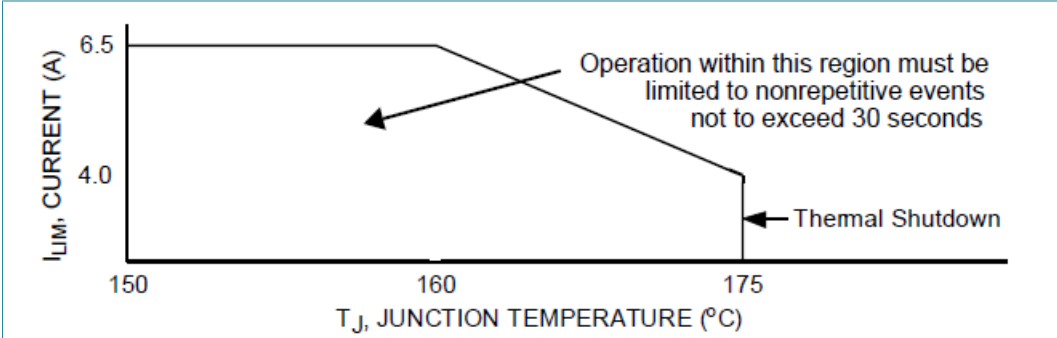
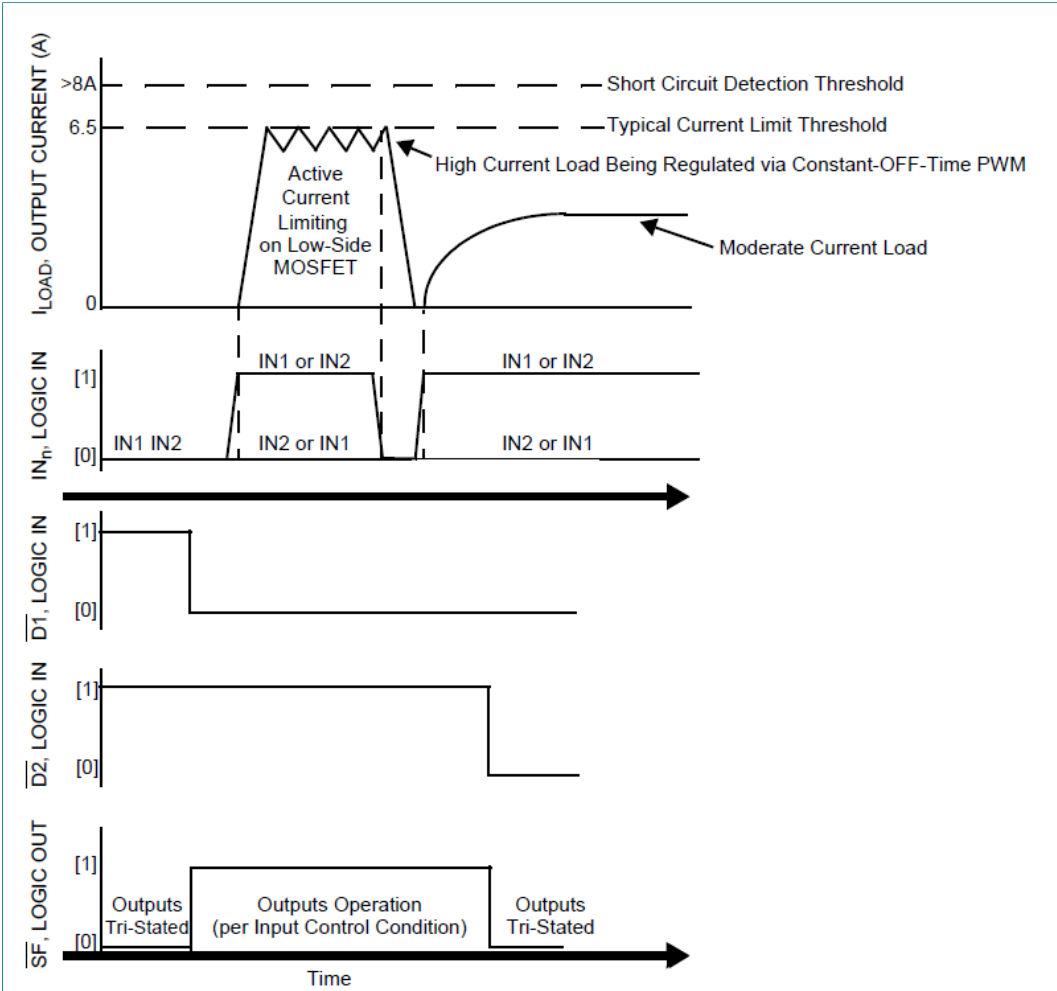

Figure 9. Active current limiting versus temperature (typical)
Figure 10. Operating states
- [5] Load currents ramping up to the current regulation threshold become limited at the I_{LIM} value. The short-circuit current possess a di/dt that ramps up to the I_{SCH} or I_{SCL} threshold during the I_{LIM} blanking time, registering as a short-circuit event detection and causing the shutdown circuitry to force the output into an immediate 3-state latch OFF. See Figure 10 and Figure 11. Operation in current limit mode may cause junction temperatures to rise. Junction temperatures above $\sim 160\text{ }^{\circ}\text{C}$ causes the output current limit threshold to progressively foldback, or decrease with temperature, until $\sim 175\text{ }^{\circ}\text{C}$ is reached, after which the T_{LIM} thermal latch OFF occurs. Permissible operation within this foldback region is limited to nonrepetitive transient events of duration not to exceed 30 seconds. See Figure 9.
The current limiting threshold value is dependent upon the device junction temperature. When $-40\text{ °C} \leq T_J \leq 160\text{ °C}$, I_{LIM} is between 5.2 A to 7.8 A. When T_J exceeds 160 °C, the I_{LIM} current decreases linearly down to 4.0 A typical at 175 °C. Above 175 °C the device overtemperature circuit detects T_{LIM} and overtemperature shutdown occurs (see Figure 9). This feature allows the device to remain operational for a longer time but at a regressing output performance level at junction temperatures above 160 °C.